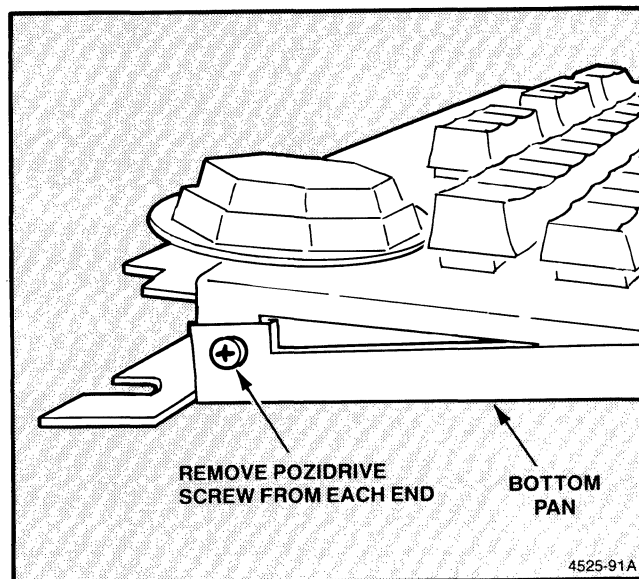

Figure 6-21. Removing the Keyboard Bottom Panel.
5. Unscrew the two screws that attach the bottom panel to the circuit board and keypad assembly. These two screws act as a hinge. See Figure 6-21.